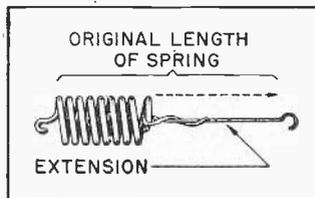
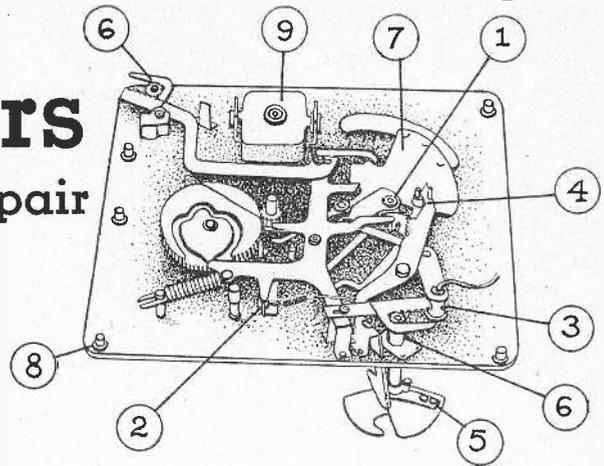
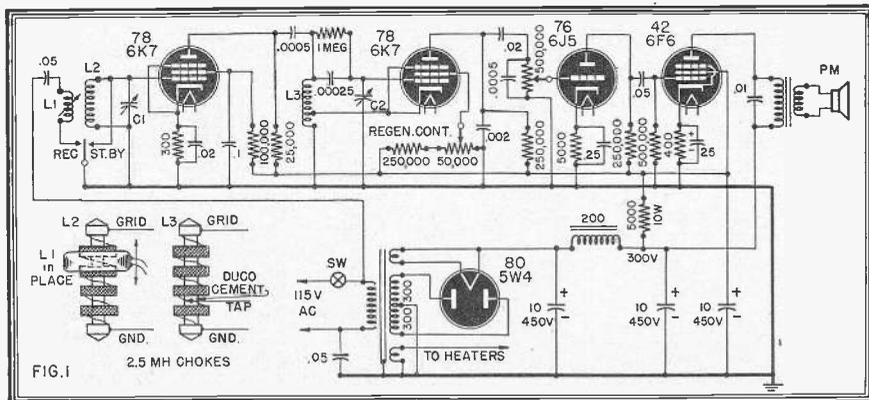

Fig. 2—Replacement for broken spring.
Fig. 3—Bottom view of changer. Numbers in circles refer to Fig. 4, below.
Fig. 1—Coils for the 200-kc. receiver are constructed from 2.5-millihenry R.F. chokes.
These two diode detectors are driven from the same source and have their outputs connected in reverse series—that is, the two detectors are interconnected in such a way that their outputs are in series, but in series so that the two outputs oppose each other and tend to cancel instead of helping each other. Now let us make some curves by plotting input frequency against output voltage on each diode separately and then on the whole system. These curves are shown in Fig. 2.
Now that we have seen the operation of this circuit, let us return to the fundamental elements of the system. These, we found, were two AM half-wave diode detectors driven from the same R.F. source and having their outputs connected in reverse series. So we see that essentially our system consists of two AM detectors. And that gives us just what we want. It is now possible to substitute a couple of triode super-regenerative circuits for the diode detectors we have hitherto been talking about, connect their outputs in the same way and couple their tuned circuits to the same antenna. Then we have a receiver with the sensitivity of an ordinary AM superregenerative and incorporating the frequency discriminating characteristic necessary for proper reception of FM signals. Using each triode unit of a double triode tube such as the 6F8-G as a superregenerator, we find that we have achieved our goal—a one-tube super-regenerative FM receiver. The circuit of this set appears in Fig. 3, complete with an audio output tube.
Fig. 1, left—Two fundamental FM discriminator circuits. The system at B is the one now most commonly used in commercial FM receivers. Fig. 2, right—How the two separate AM detectors of Fig. 1-A can be made to operate as a discriminator for detection of FM signals.
The receiver, shown in Fig. 1, uses a regenerative detector, one stage of R.F. and two stages of audio. It is built on a 7 x 7 x 2 chassis in a plywood cabinet with Masonite panel.
A transmitter for both C.W. and phone is drawn in Fig. 2. B is a 6.3-volt bulb used as an R.F. indicator. It is fed from a single turn around the tank coil. The center tap on the tank is adjusted for maximum brilliancy of the bulb. "Ch" is a 100 M.A.
modulation choke. If an audio amplifier is already available, Fig. 3 may be used. The regular output transformer is connected to terminals "A.F." to feed the large output transformer T1 in the figure. A modulation transformer or large class-B audio unit should be used in this circuit, as the cur-
Fig. 2—The 6L6 modulator and transmitter circuit complete. Fig. 3—A suitable hook-up for use if an audio amplifier is available as modulator. Values for all coils are supplied in the article.
**B**ECAUSE of the difficulty of designing a loud-speaker which will function efficiently over a wide frequency range, it has been common practice in FM radios and movie sound work to use a "woofer" for the lower frequencies and a "tweeter" for the highs. The tweeter is generally a low-power unit since the high frequency sound energy is small in comparison with the low. The woofer is a rugged, heavy-duty unit. The job of dividing the electrical energy into two paths falls to the dividing network. A simple type of network is shown in Fig. 1.  $R$  is the voice coil resistance or speaker resistance in ohm,  $C$  is the capacity in farads and  $f_x$  is the crossover frequency in cycles.  $L$  is the inductance in henries.
The circuit action is easy to visualize. A condenser is connected in series with the high-frequency speaker. Since condenser reactance decreases as frequency rises more high frequency current gets through to the tweeter than low frequency current, thus favoring the highs so far as the tweeter is concerned. Also note that in Fig. 1 a coil is connected across the high frequency speaker terminals. Thus the shunt current through the coil will be greater at the lower frequencies, since the coil has low reactance at these frequencies. As the frequency rises the coil current is decreased and the current in the high-frequency speaker rises. The opposite action occurs so far as the low frequency or woofer speaker is concerned. It has a condenser in parallel with it. The shunt reactance of the condenser decreases as the frequency is raised, shunting away an ever greater amount of current from the woofer at higher and higher frequencies.
Still another form of dividing network is shown in Fig. 2. The action here is somewhat the same as in Fig. 1, but note that as  $X_c$  decreases not only is there less opposition to the flow of high frequency signal current in the tweeter, but also an increased shunting of high frequency current away from the woofer—through the condenser and tweeter. The choke coil  $L$  opposes the high frequency current but offers relatively little opposition to the lower frequencies. Note that, looking into the input terminals of this network at a particular frequency, we may run into parallel resonance. At such a frequency the load on the source connected to the input will drop and the output voltage of the source will rise, which may cause feedback and oscillation in an amplifier system. The damping action of the speaker resistances, however, would tend to decrease the  $Q$  of the resonant circuit and to give a broad peak, so that in all probability the resonant build-up would be so small as to call for no design features to overcome it.
The type of network shown in Fig. 3 is sometimes used. The  $C$  and  $L$  values are equal. This circuit is somewhat similar to the basic type in Fig. 1, but here we have added capacitive and inductive elements in series with tweeter and woofer, thus enhancing the sharpness of crossover and the frequency discriminating properties of the complex network. The basic action remains the same, series inductance cutting down the highs and favoring lows, series capacitance highs, shunt capacitance cutting highs, shunt inductance raising highs.